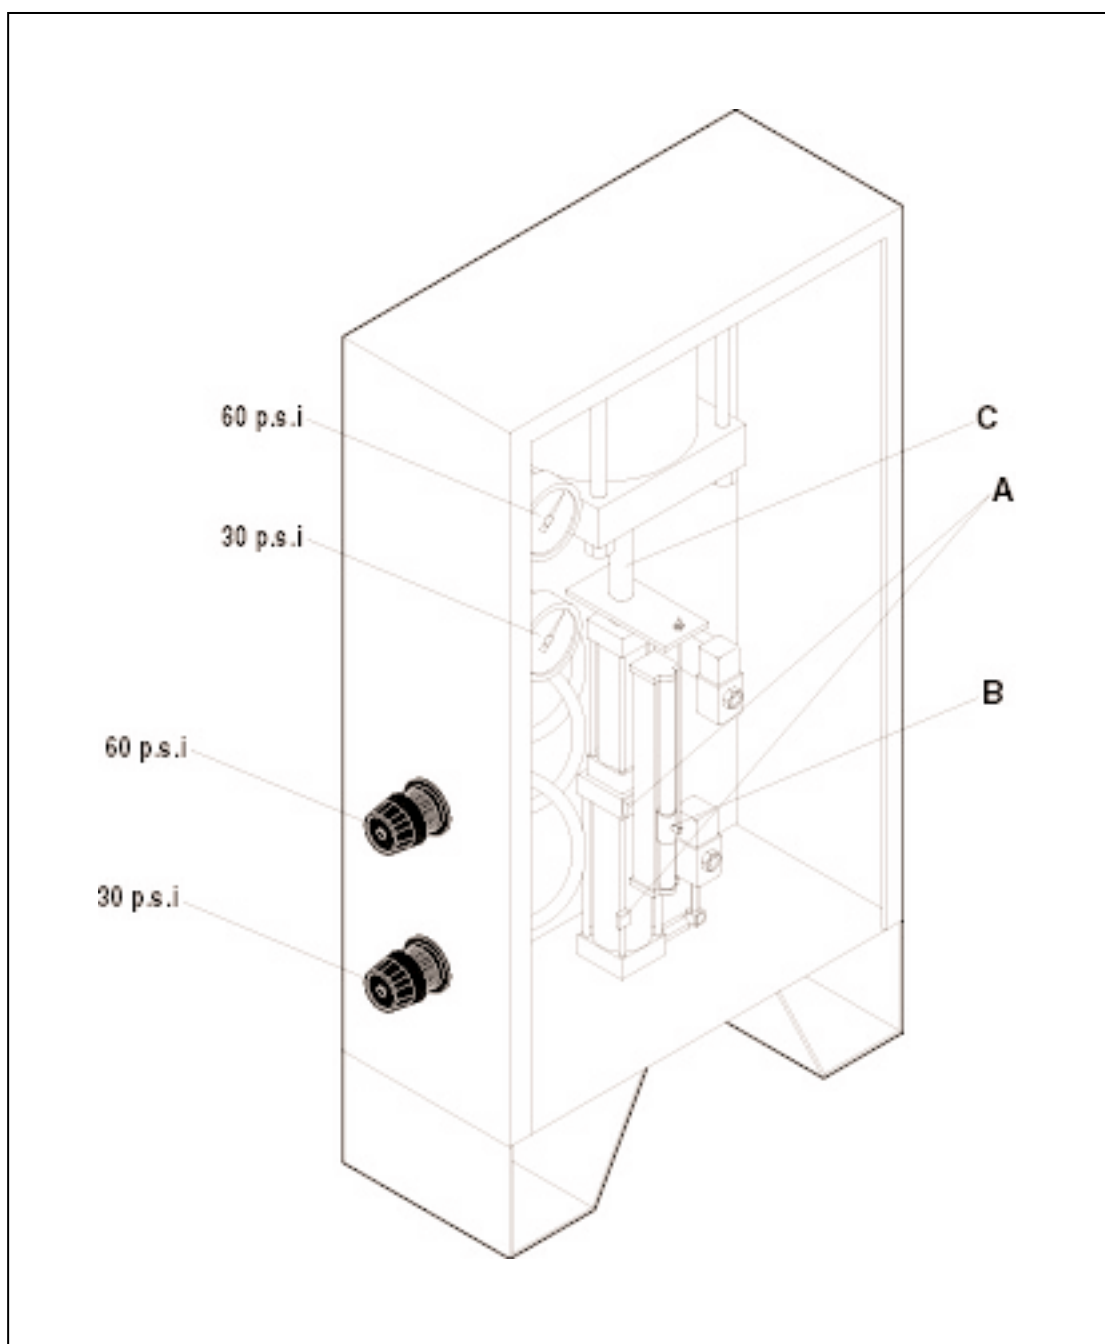

Figure 12.2 SMARTPAC PANEL
- 12.1.2.9 Set air pressure for rod end of cylinder to 60 PSI and Cap End of cylinder to 30 PSI (see figure 12.2).
To adjust transducer (see figure 12.2):